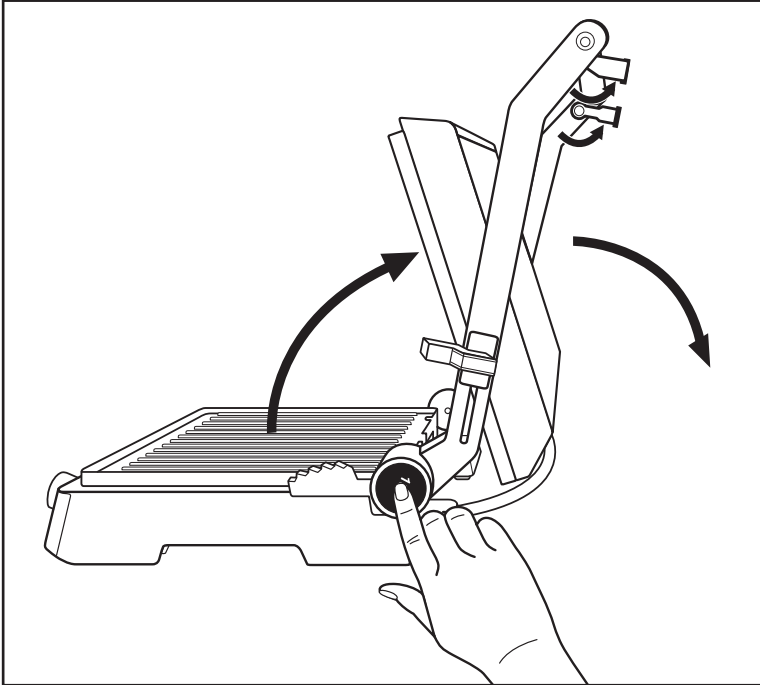

Fig. 1
- 1) Fold out both support feet **1** (Fig. 1).
- 2) Press the unlocking button 180° **3** (Fig. 1) and open the appliance lid until both hotplates **10** can be used as a table grill.